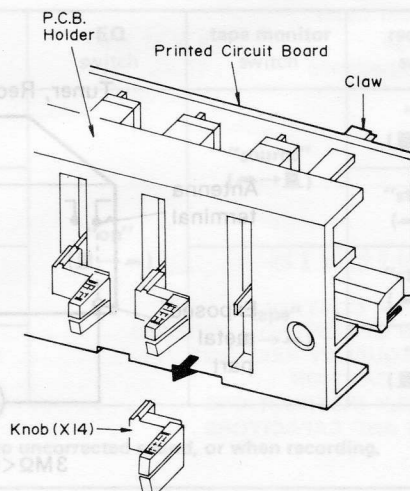

Fig. 4
4. Pull out the 14 band level control knobs as in Fig. 4.